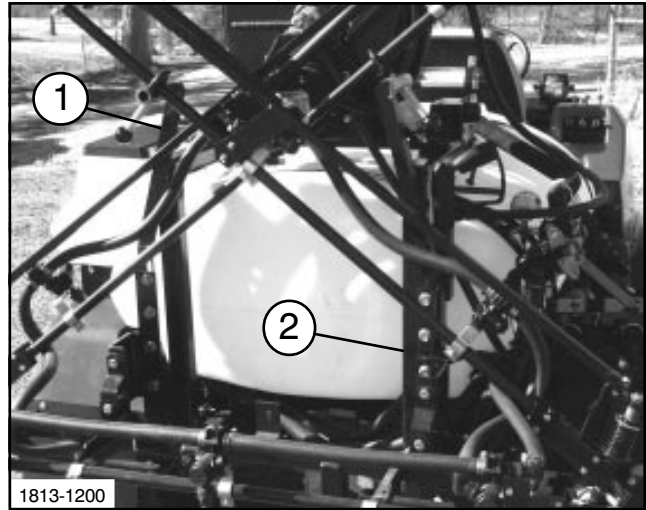

FIG. 2
2. Install the two (2) Boom Hold-In Assemblies to the top of the Boom Mount uprights as shown in FIG. 2, using four (4) 1/2" x 1-1/4" cap screws, and flange nuts.
3. Attach the two (2) "U"-shaped Boom Mounting Brackets to the third and fourth holes from the top of the Boom Mount uprights with four (4) 1/2" x 1-1/4" cap screws, and flange nuts. Torque to 75 ft-lbs (102 N-m).